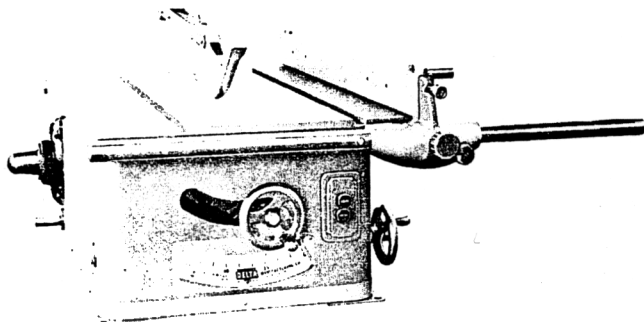
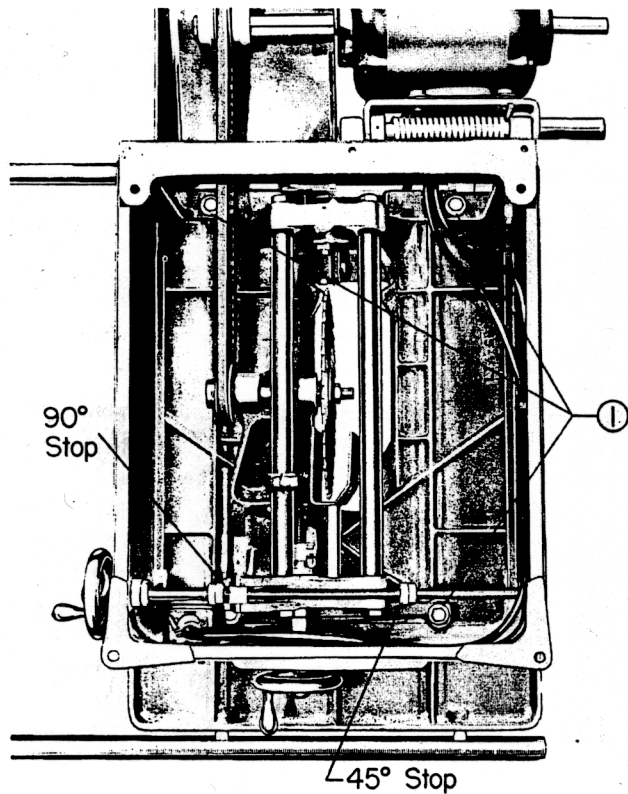

Figure 1
Figure 4
3. Assemble front and rear guide rails using spacers and special screws provided for this. The front guide rail to have inch marks on it and these are to be on top side. See Figs. 1 and 6 for location of parts.
4. Mount rip fence on guide rails. See Figs. 1 and 6.
10. Check arbor nut holding the saw blade on the shaft and make sure it is tight. Lower saw blade to complete down position by using the hand-wheel which lowers and raises the saw arbor. This hand-wheel is located on the front of the cabinet. Place saw blade in vertical position by using the tilt hand-wheel on the right side of cabinet. See Figure 1.
2. Saw blade alignment with the Miter Gage. Raise the saw blade to complete up position. Place a scale along the face of the miter gage and slide one edge of the scale against the saw blade just under the set in the teeth. Mark this spot on the saw blade. Holding the scale tightly against the miter gage face, move the gage to the rear of the table and rotate the saw blade until the scale is again opposite the mark on the blade. The scale should be touching the saw blade just under the set. If not, adjustment can be made by loosening the four trunnion mounting screws (1), Fig. 4, and (Key 100), Fig. 7 Tap one side or the other of the table with a plastic or rawhide hammer until the blade has been properly aligned. Re-tighten the screws.
3. Tilt stops at zero (90) and 45 degrees. With the saw blade raised in its highest position, place a try square or combination square on the table so that one edge of it extends up along the saw blade. Adjust the blade by using the tilt hand-wheel on the right side of the cabinet, see Fig. 1 until blade is parallel to the edge of the square. We suggest that a final test be made by making an actual cut. Use a piece of wood at least 2½ inches wide and test for squareness. Tighten friction knob. From the back of the cabinet and using two open end wrenches, tighten adjusting nut and then, second adjusting nut against the first. Tilt the saw blade to 45 degrees as measured by a bevel protractor. Repeat operation above, see Fig. 4. A few drops of oil on the elevating and tilting screws, see Fig. 4, is the only lubrication saw needs, all bearings are lubricated and sealed for life. Return saw blade to vertical position against stop nuts and lock. Loosen set screw (Key 78), Fig. 7, and adjust pointer (Key 29) to zero and re-tighten set screw.